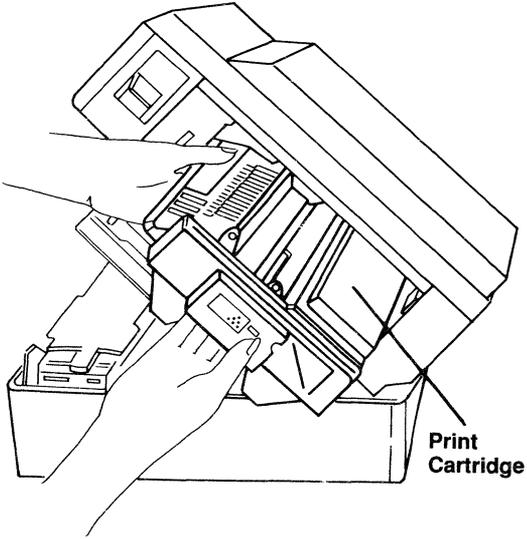

Figure 5: Inserting the Print Cartridge into the Printer
3. Insert the print cartridge into the printer through the right door. The cartridge handle should be to the left and the instruction label should face upward. (See Figure 5.)